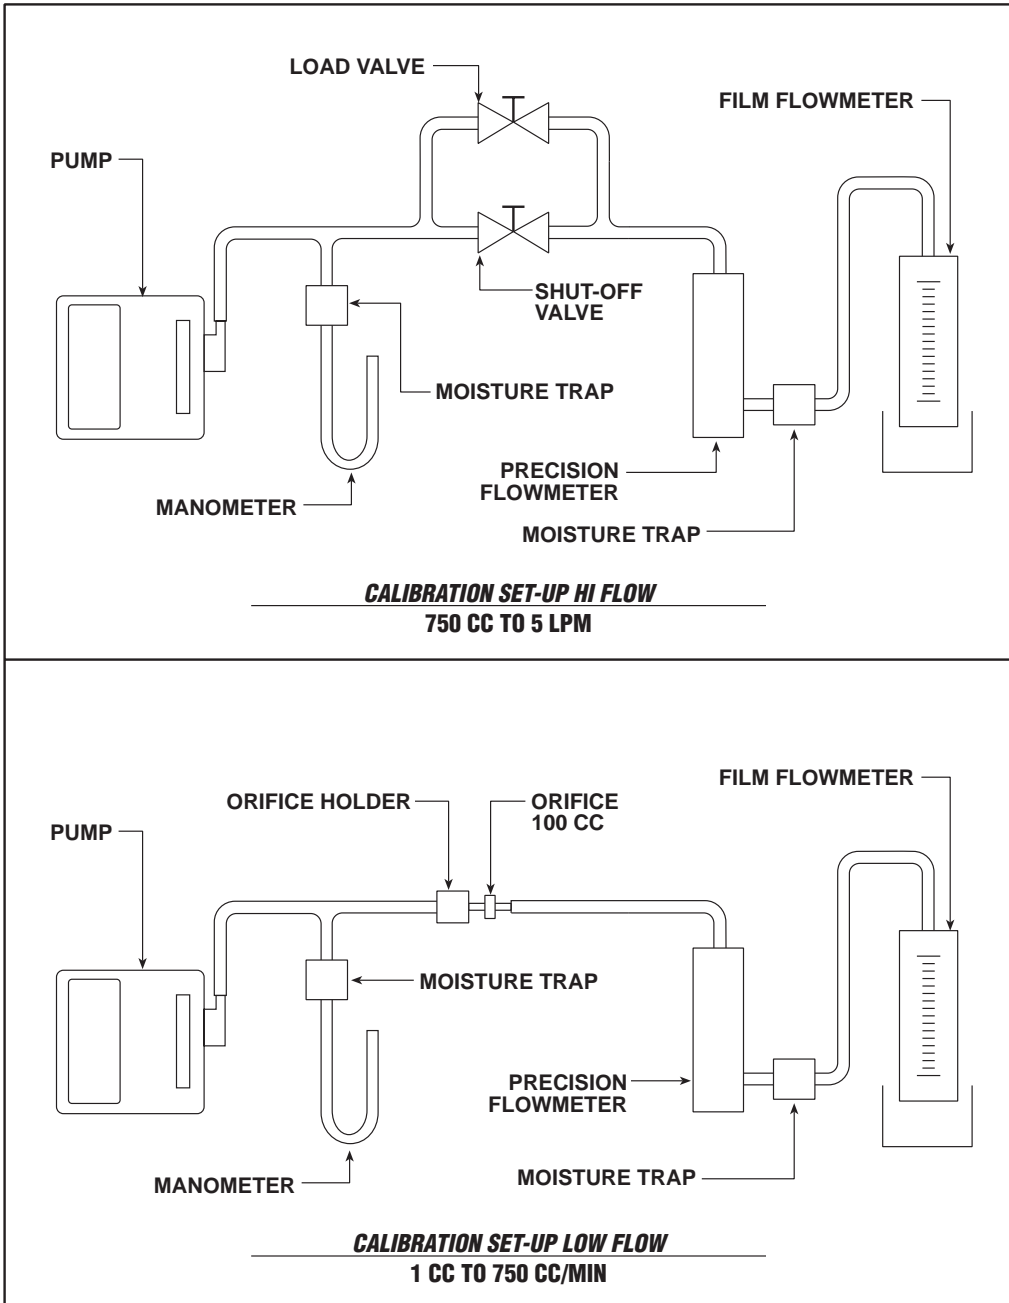

Figure 7
Connect a manometer or pressure gauge capable of reading up to 40" H₂O to the pump as shown in Figure 7.
Attach a Variable Flow Controller tube holder as shown in Figure 7. Remove the Protective Cap (21) and completely block the air entering the tube holder.